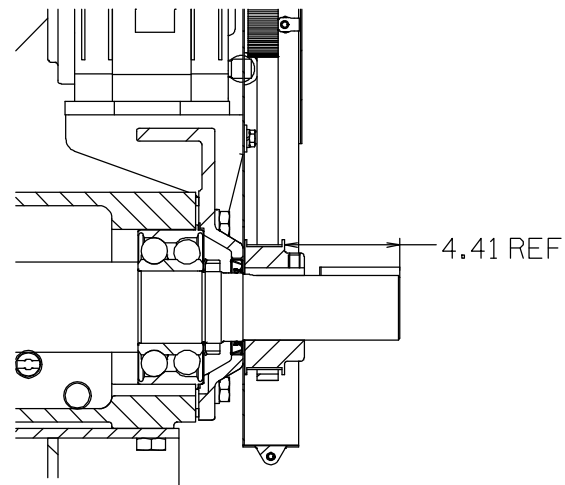

Figure 6. Drive Sprocket Positioning
Install the sprocket key (34) in the shaft keyway, making sure to leave room in the keyway for the drive key (26, Figure 2). Install the sprocket (33) on the shaft to the dimension shown in Figure 6.
(Figure 6)